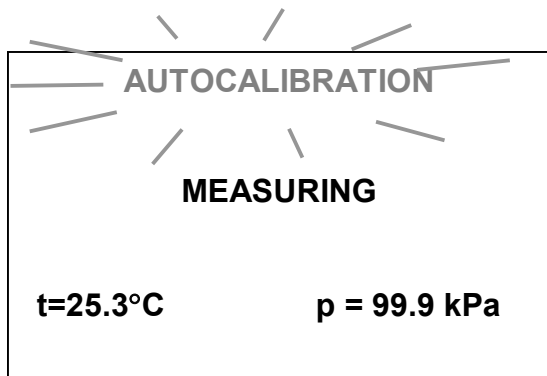
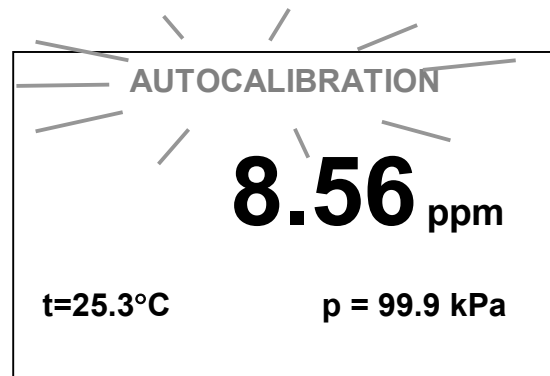

Fig. 2.11
Fig. 2.12
- 4 Press the key **RECORD**/**ENTER**. The display shown in Fig. 2.11 shall come up, first, and then the display shown in Fig. 2.12. The display shall show the measured DOC value with regard to calibration coefficients of the previous calibration.